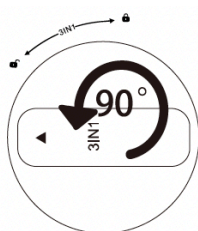

Figure 6
4. Rotate the old filter element for 90° anti-clockwise quickly, as the triangle icon on top of filter element is pointed at lock icon, take out the old element (As Figure 6).